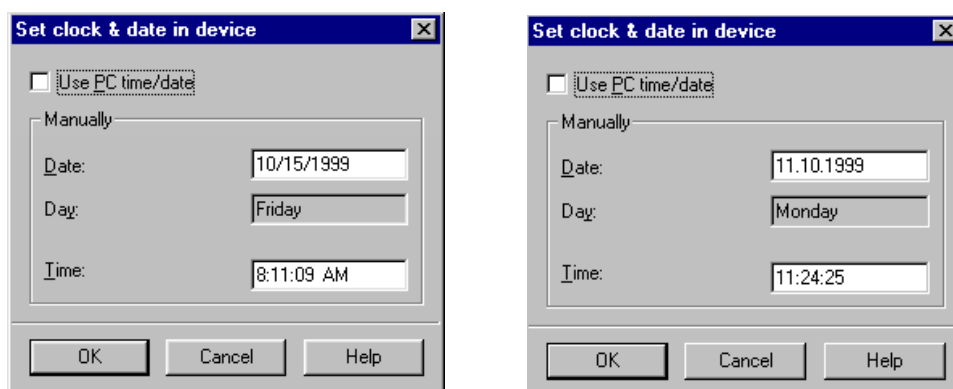

Figure 7-28 Dialog Field: **Set clock & date in device**
- Edit the input fields **Date** and **Time**. The format depends on your regional settings of the PC. See Figure 7-28.